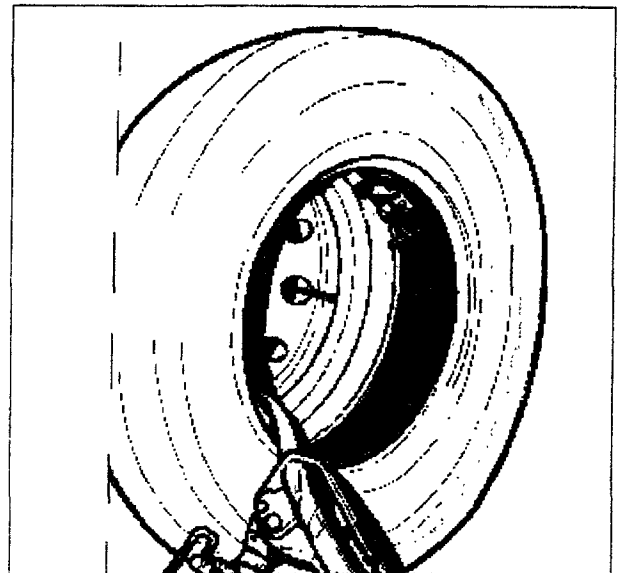

Fig.34
1. Hang the inner bead of the tyre on the mounting clamp (Fig.34).